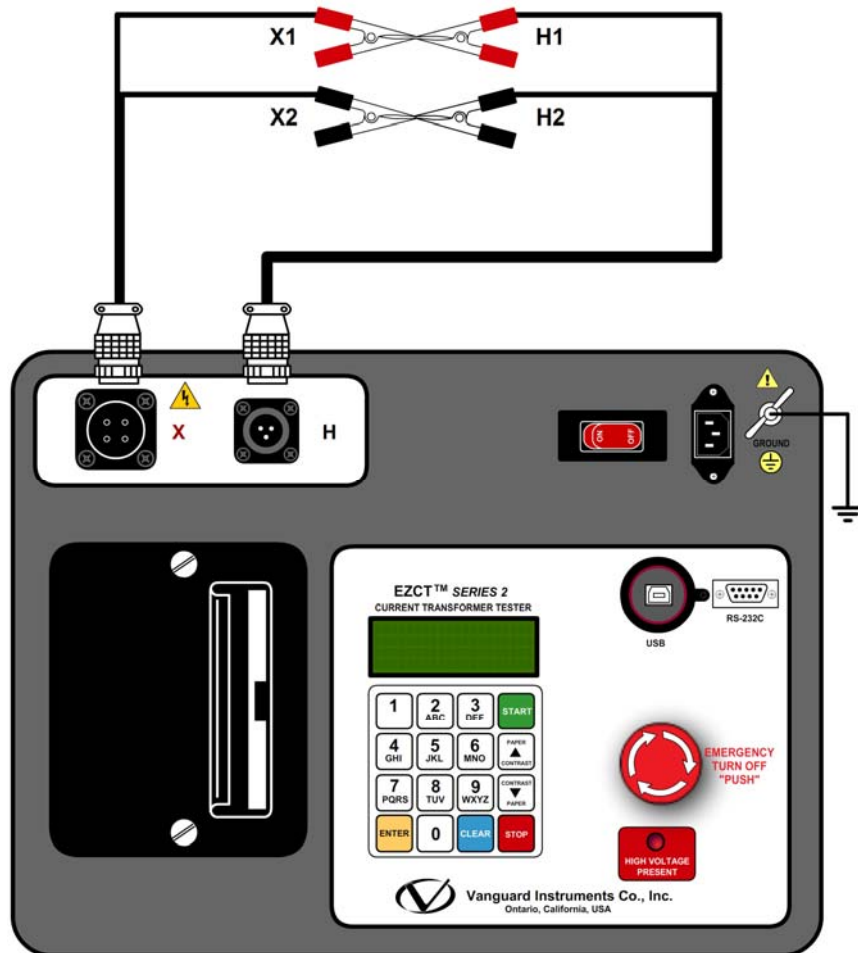

Figure 15. EZCT S2 Turns Ratio Verification Test Connections
- Connect the X1 test lead to the H1 test lead as shown in Figure 15.
- Connect the X2 test lead to the H2 test lead as shown in Figure 15.